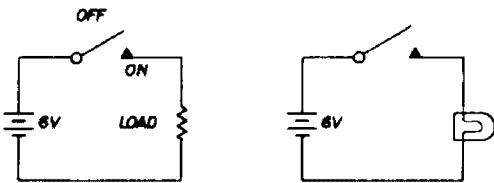

fig. 1 Binary action of a simple switch.
Digital systems, instruments and devices respond readily to binary information. For example, a simple switch is binary in its activity. The switch of fig. 1, when closed, produces 6 volts across the output. This voltage can be arbitrarily assigned a value of binary (1). When the switch is open there is zero output voltage which can be assigned a binary value of (0). If the load is a small bulb, light *on* becomes binary 1 and light *off* binary 0.